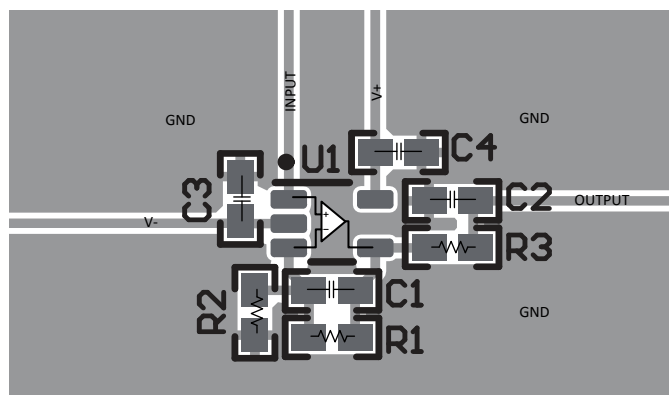

Figure 7-5. Operational Amplifier Board Layout for Noninverting Configuration - SC70 (DCK) Package
- Place the external components as close to the device as possible. As shown in Figure 7-5, keeping RF and RG close to the inverting input minimizes parasitic capacitance.